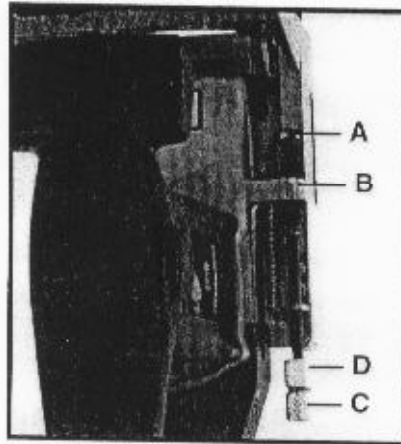

Fig. 2
A "quick set" adjusting knob (A) Fig. 2 is provided for changing depth of groove required for the three biscuit sizes. The biscuit sizes 0, 10, and 20 are stamped on the flats at the end of this knob. Adjust depth of groove as follows:
2. Pull adjusting knob forward and rotate until desired biscuit size is in line with indicating mark (B) Fig. 2.
1. Hold knob (D) Fig. 2 and turn knob (C) Fig. 2, counterclockwise to unlock.
2. Turn knob (D) Fig. 2, clockwise.
3. Hold knob (D) Fig. 2, at desired position and turn knob (C) Fig. 2, clockwise to lock.
2. Turn knob (D) Fig. 2, counterclockwise.
3. Hold knob (D) Fig. 2, at desired position and turn knob (C) Fig. 2 clockwise to lock.